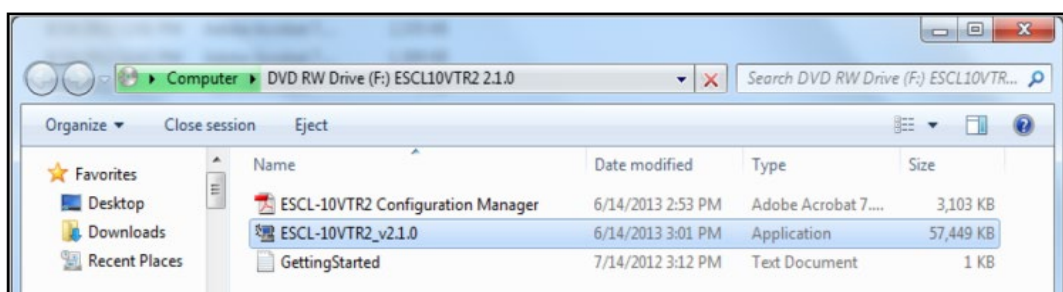

Figure 8-3: Running the set-up file
- Click on the Set-up file: the application prepares to install (figure 8-3).